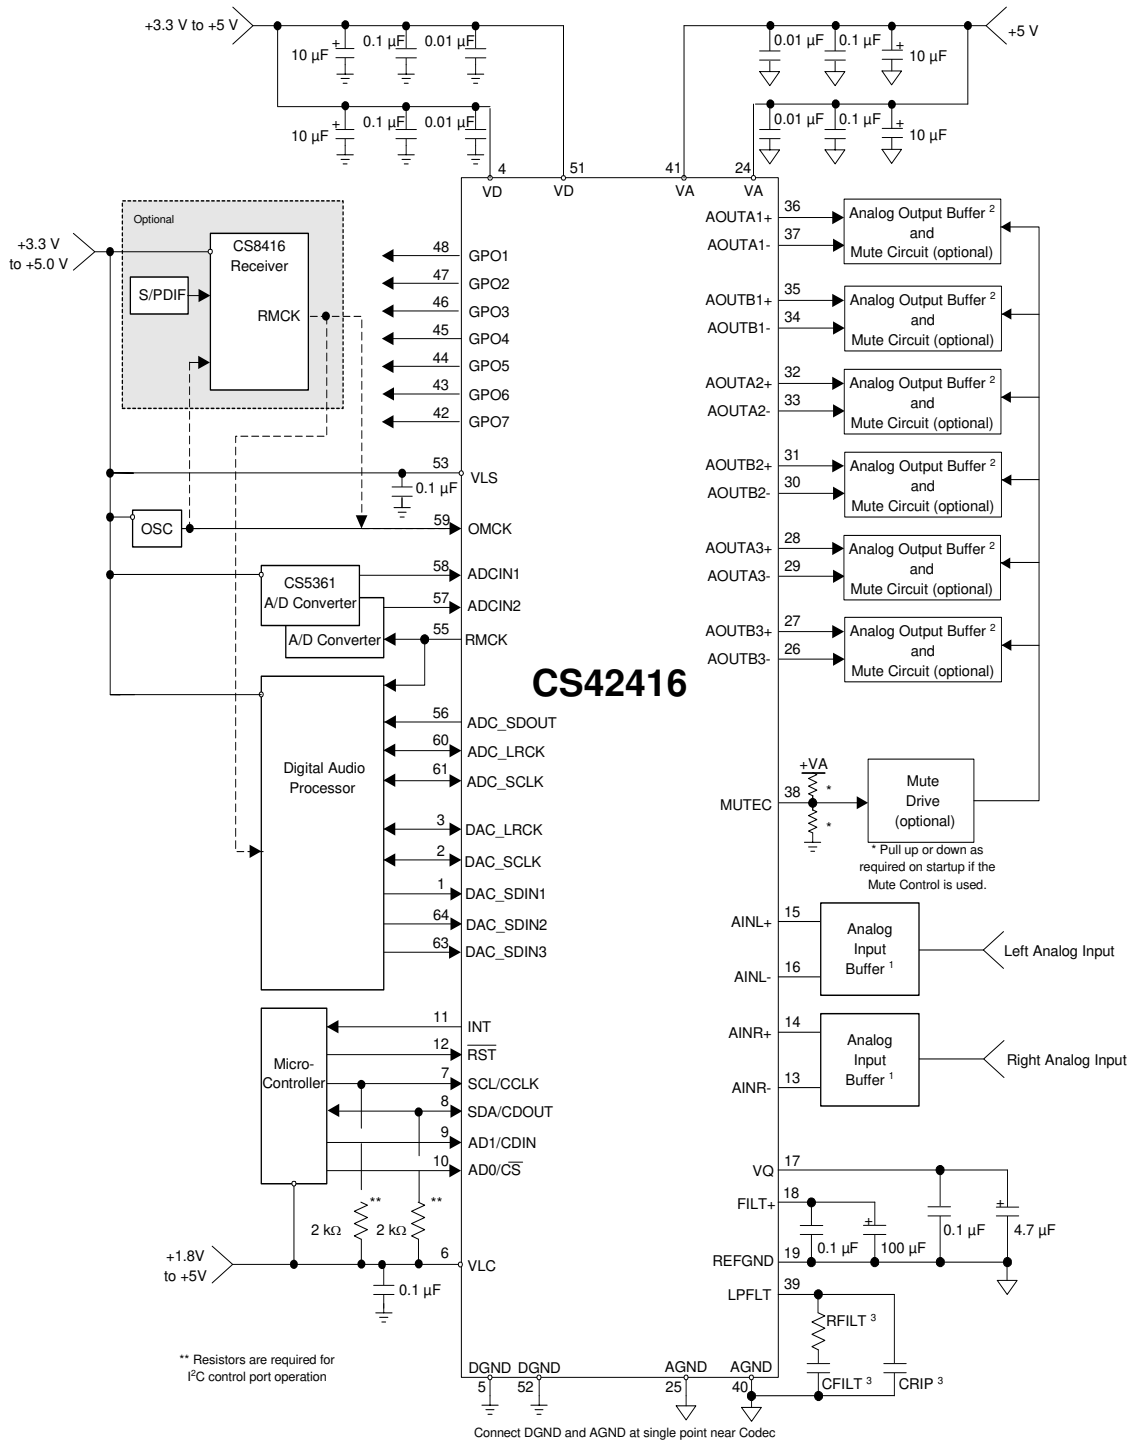
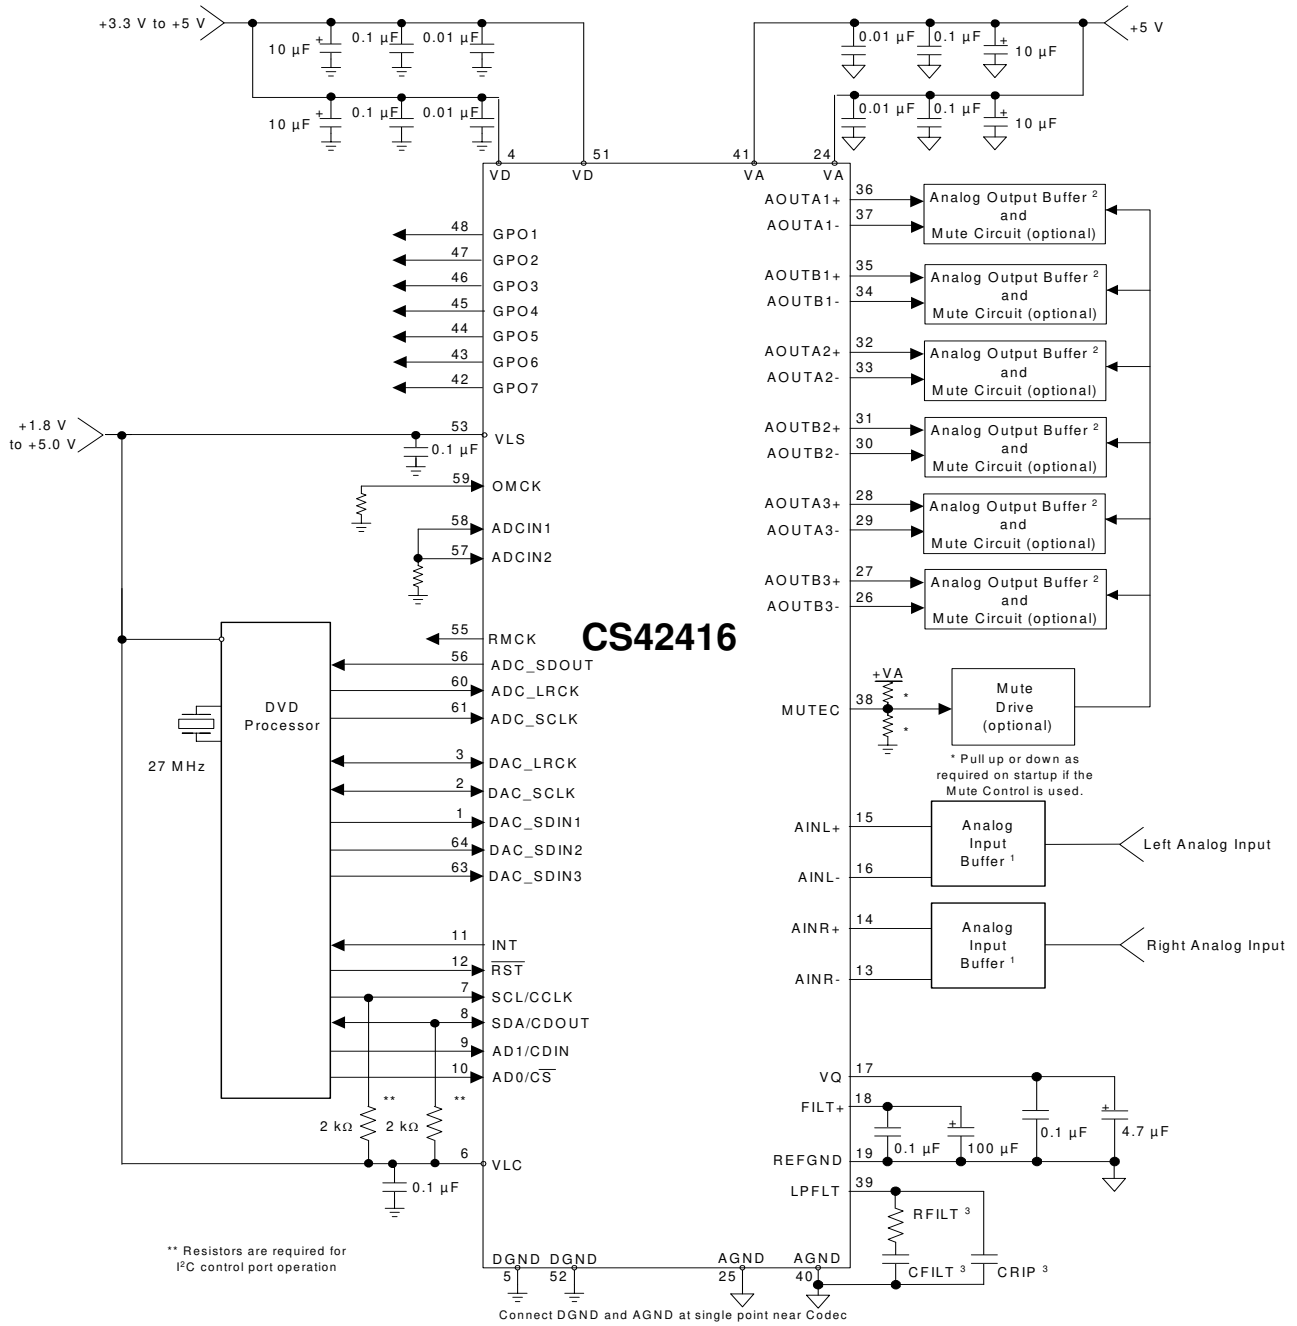

Figure 5. Typical Connection Diagram
Figure 6. Typical Connection Diagram using the PLL
25. Valid with the recommended capacitor values on FILT+ and VQ as shown in Figure 5.
The CS42416 is a highly integrated mixed-signal 24-bit audio codec comprised of 2 analog-to-digital converters (ADC), implemented using multi-bit delta-sigma techniques, and 6 digital-to-analog converters (DAC). Other functions integrated within the codec include independent digital volume controls for each DAC, digital de-emphasis filters for DAC, digital gain control for ADC channels, ADC high-pass filters, and an on-chip voltage reference. All serial data is transmitted through one configurable serial audio interface for the ADC with enhanced one-line modes of operation, allowing up to 6 channels of serial audio data on one data line. All functions are configured through a serial control port operable in SPI mode or in I²C mode. Figure 5 and Figure 6 show the recommended connections for the CS42416.